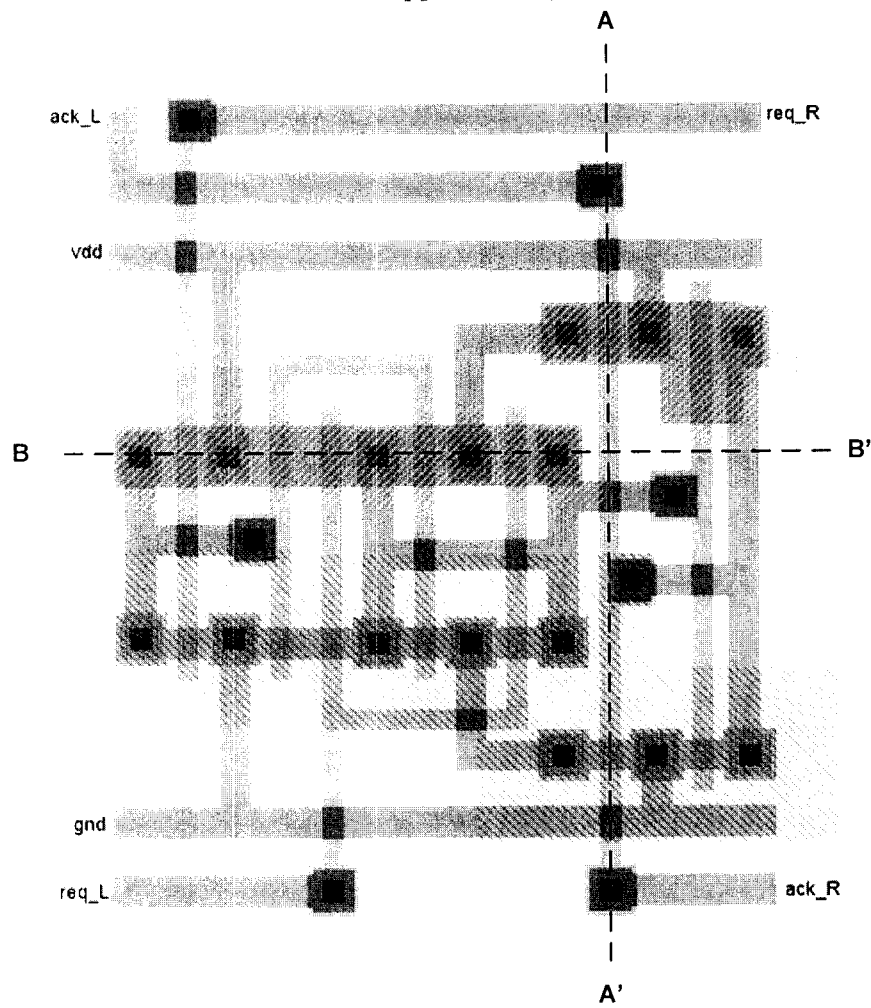

Figure 1.1 Layout of a full-custom cell for Question 1
1. a) *Figure 1.1* (see the colour supplementary sheet) shows the layout of an n-well CMOS circuit with four terminals: Req_R, Req_L, Ack_R and Ack_L. Extract and draw the transistor-level schematic diagram.